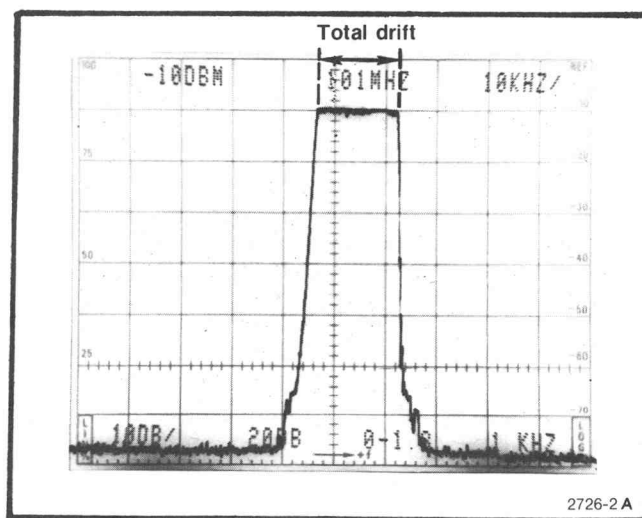

Fig. 3-11. Digital stored display showing drift.
e. Check the signal stability or drift over the specified time period. If the instrument has Digital Storage, drift will appear as the width of the response less the resolution bandwidth (see Fig. 3-11) after specified time period.